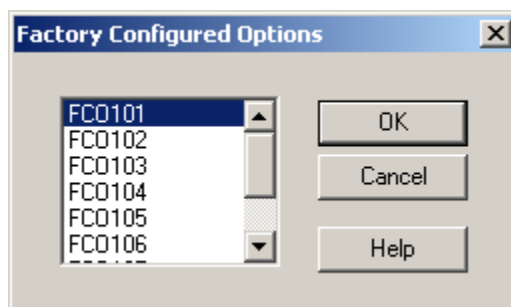

Figure 7-3 Factory Configured Options
3. Click **[OK]**. The Factory Configured Options dialog displays. See Figure 7-3.